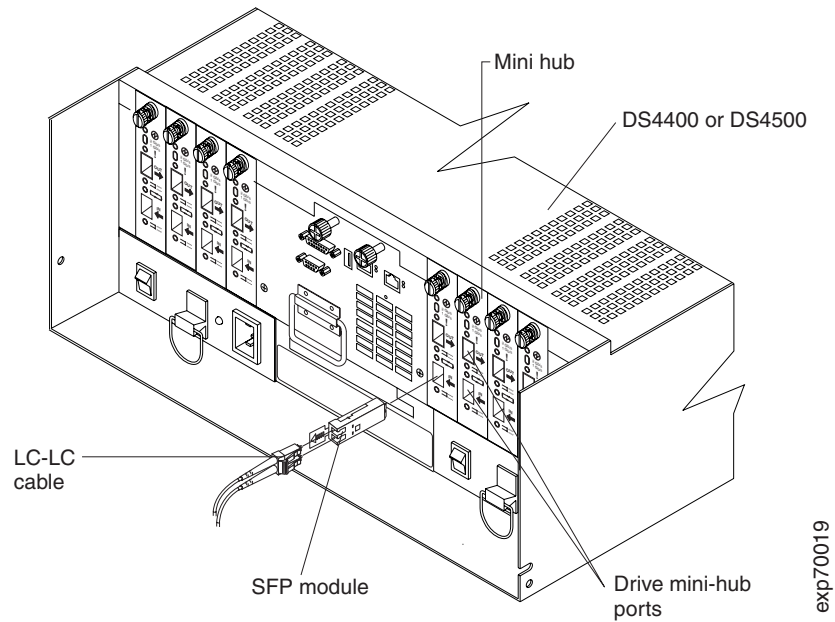

Figure 53. Installing an SFP module and LC-LC cable in a DS4400 or DS4500
2. Connect an LC-LC fiber-optic cable into the SFP module, as shown in Figure 53 on page 69.